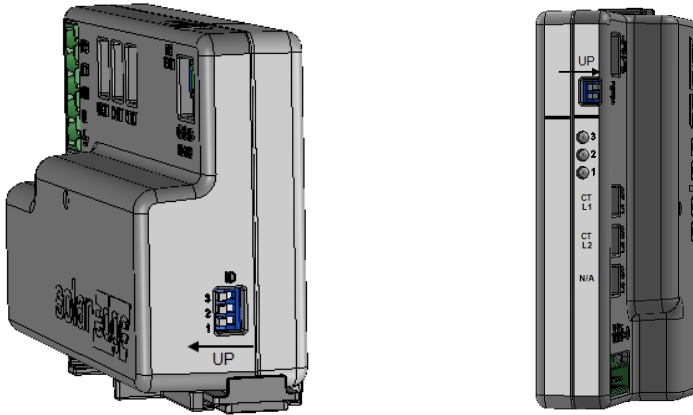

Figure 30: ID and termination DIP switches
7. In the meter, ensure the RS485-1 DIP switch is down. See *Figure 30*.